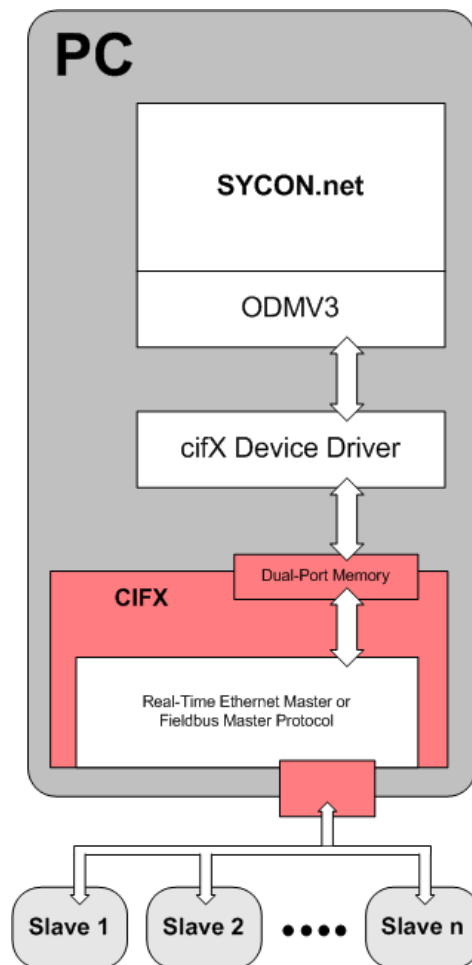

Figure 37: System Overview CifX and SYCON.net
- with the program **SYCON.net** (Master or Slave), as shown in *Figure 37* on page 96 or